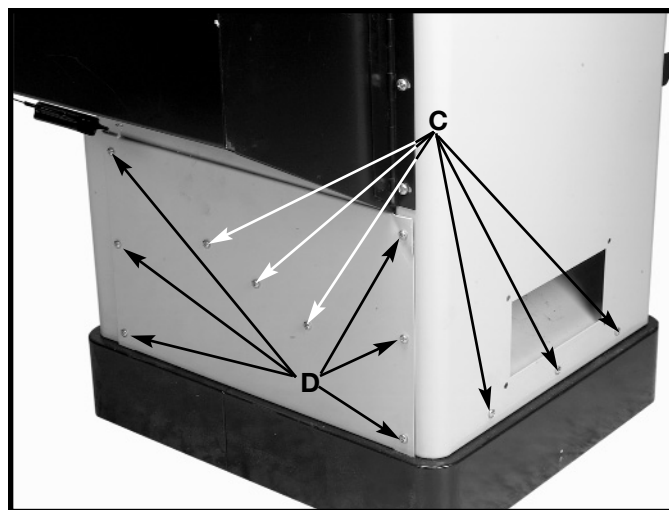

Fig. 4
To bolt the saw to a permanent location, remove the nine screws which secure the dust chute inside the saw cabinet, six of which are shown at (C) Fig. 4. Also, remove the side panel below the motor cover by loosening all six screws (D).